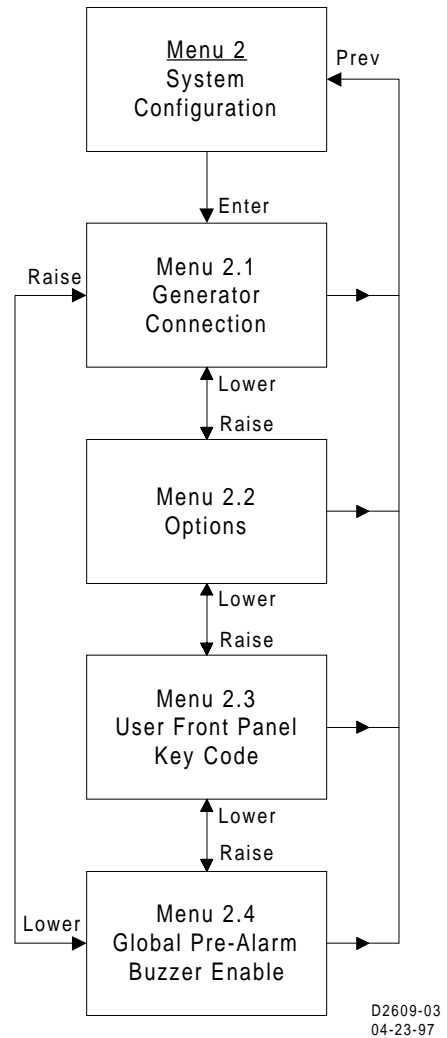

Figure 3-5. Menu 2
**Menu 2.** Menu 2 system configuration. Pressing **Select/Enter** from this menu (Figure 3-5) begins the 2.x level of menus. Pressing **Raise/Scroll** and **Lower/Scroll** from this menu scrolls through the 1.x levels of menus.